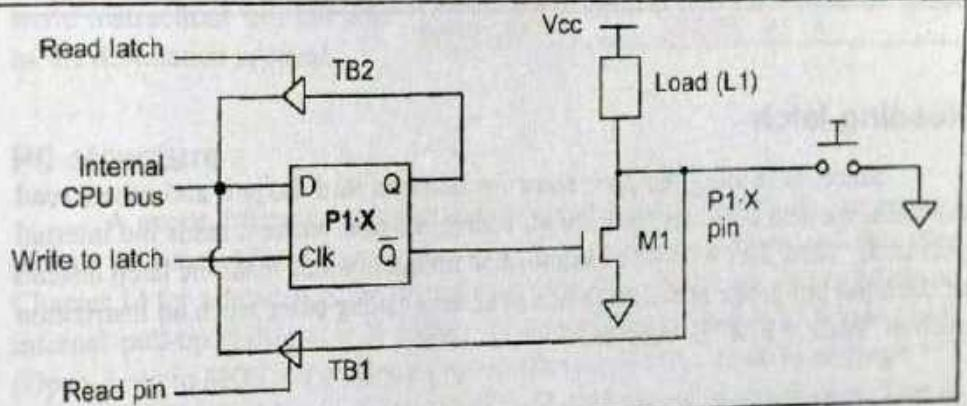

Figure C-15. Input Switch with No V_{CC}
2. The second method is to use a switch with a ground only, and no V_{CC}, as shown in Figure C-15. In this method, we read a low when the switch is pressed and we read a high when it is released.